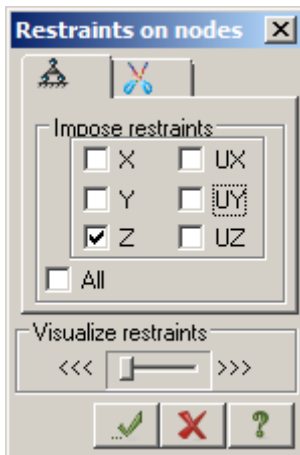

Figure 7.10 **Restraints on nodes** dialog box
- ⇒ In the **Restraints on nodes** dialog box (see Fig.7.10) specify directions along which displacements of nodes are not allowed (Z). To do this, select appropriate check boxes.